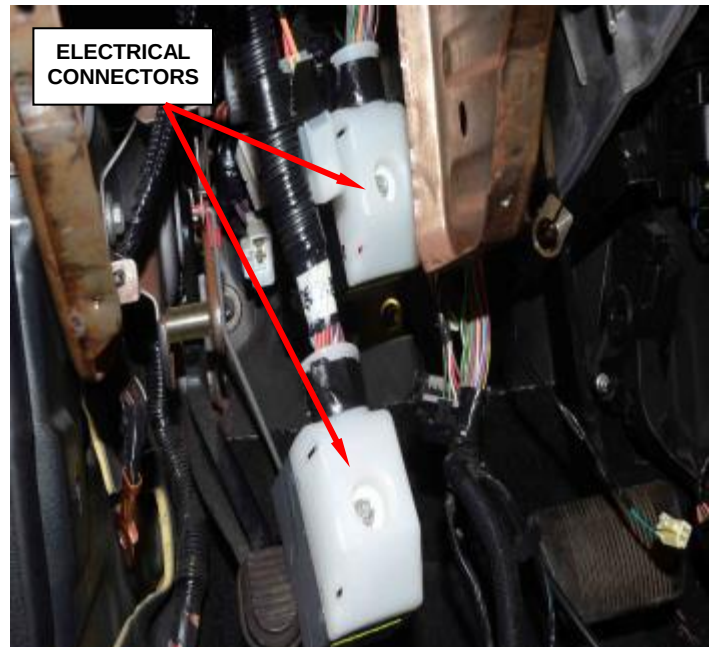

Figure 134 – Electrical Connectors
19. Loosen the screws and disconnect the electrical connectors (Figure 134).